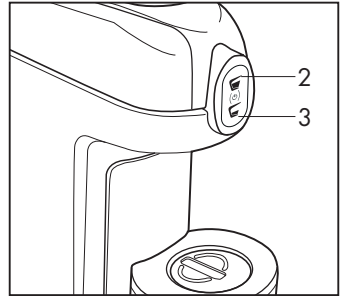

Fig. 4
- Switch on the machine by pressing one of the symbols (2) or (3) or the 2 symbols (2) and (3) simultaneously (**Fig.4**). The symbols (2-3) will flash intermittently until the temperature is reached; when the symbols (2-3) are lit with a fixed light the machine is ready for use.
To use the machine again, press a dispensing symbol (2-3) and wait for it to heat up: the dispensing symbols (2-3) will blink intermittently until the temperature is reached; when the symbols (2-3) are lit with a fixed light the machine is ready for use. (**Fig.4**).
The machine can be switched off by simultaneously pressing and holding down for 5 seconds the symbols (2-3) (**Fig.4**)
- Check that there are no capsules inside the machine and that there is water in the tank (8); switch on the machine by pressing one of the symbols (2-3) or simultaneously the 2 symbols (2-3) for (**Fig.4**)